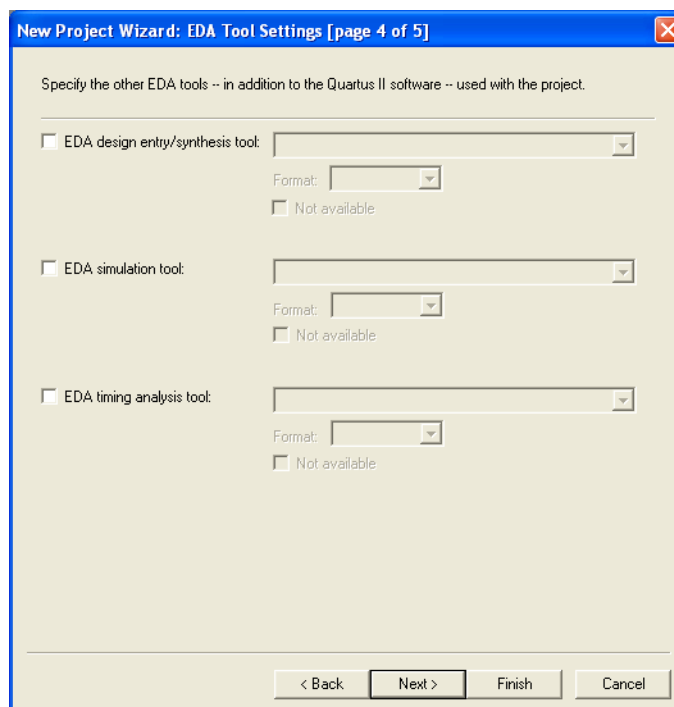

Figure 8. Other EDA tools can be specified.
- We have to specify the type of device in which the designed circuit will be implemented. Choose Cyclone™ II as the target device family. We can let Quartus II software select a specific device in the family, or we can choose the device explicitly. We will take the latter approach. From the list of available devices, choose the device called EP2C35F672C6 which is the FPGA used on Altera's DE2 board. Press Next, which opens the window in Figure 8.